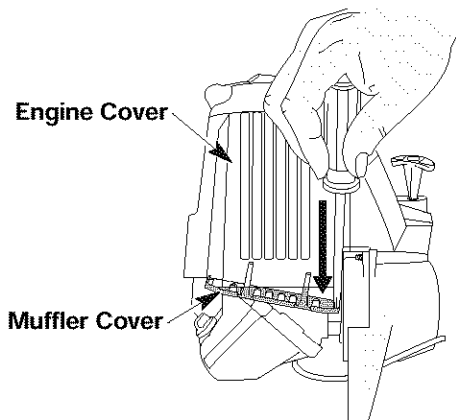

Fig. 36
1. Remove the muffler cover by pressing down on the corner with a flat blade screwdriver (Fig. 36). Slide the notches on the sides of the muffler cover over the tabs on the engine cover and remove
- Replace the muffler cover. Slip the long tabs on the muffler cover into the engine cover. Slide the notches on the side of the muffler cover over the tabs on the engine cover and snap into place (Fig. 36).